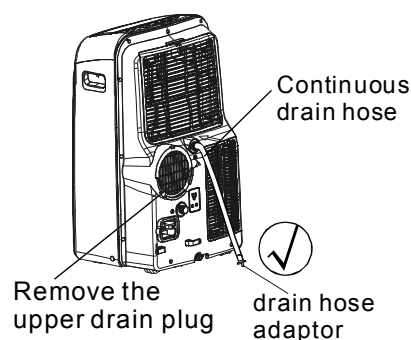
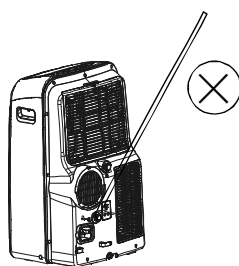

Fig. 20a
Fig. 21b
- During dehumidifying modes, remove the upper drain plug from the back of the unit, install the drain connector(5/8" universal female mender) with 3/4" hose(locally purchased). For the models without drain connector, just attach the drain hose to the hole. Place the open end of the hose adaptor directly over the drain area in your basement floor. Please refer to Fig.20a.
NOTE: Make sure the hose is secure so there are no leaks. Direct the hose toward the drain, making sure that there are no kinks that will stop the water flowing. Place the end of the hose into the drain and make sure the end of the hose is down to let the water flow smoothly.(See Fig.20a,20b,21a). Do never let it up.(See Fig.21b).